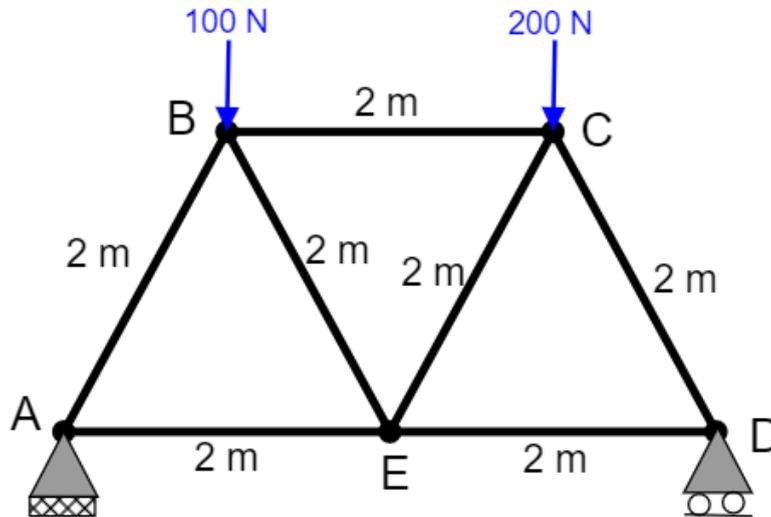

Figure Q5: Truss structure.
- b) A truss structure for a small bridge is shown in **Figure Q5**. For the given geometry and loads,